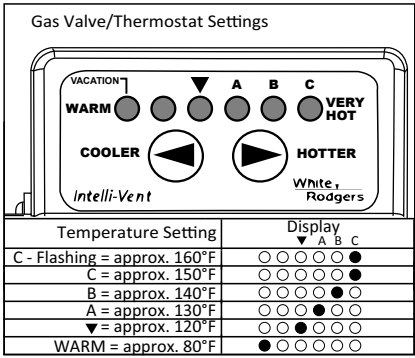

Figure 34 - Temperature settings.
- First, "wake up" the temperature indicators by holding down both COOLER ➡ and HOTTER ➡ buttons at the same time for one second. (See Figure 34.) The controls will remain active for 30 seconds before returning to "sleep mode."